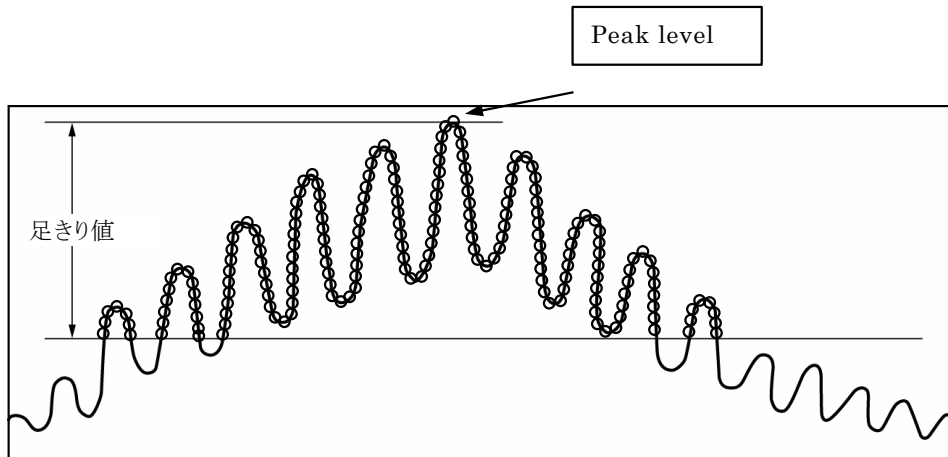

Fig. 8-10: RMS Analysis
- ① Take out the data points exceeding the limit value TH, as shown in the Fig 8-10, within the displayed waveform, and find the spectrum width by the following calculation.
- ② When the wavelength at each point is λ_i and the level at the point is P_i , the mean wavelength λ_c can be found by the following expression.